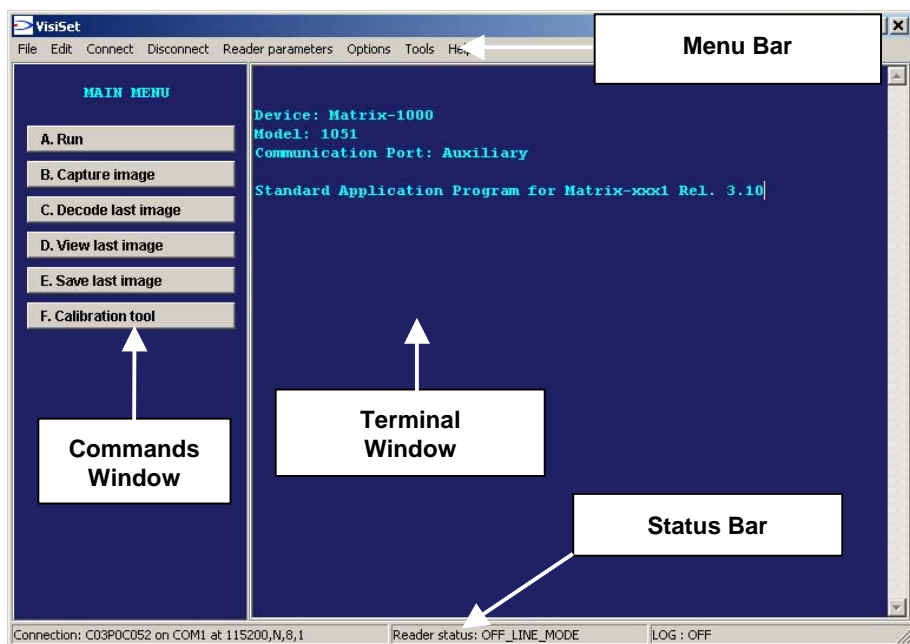

Figure 28 - Main Window
Upon connection, Matrix-1000™ exits Run Mode and displays the Main Menu on VisiSet™ with all the commands necessary to monitor your reader's performance. You can select these commands using the mouse or by pressing the key corresponding to the letter shown on the button. See Figure 28.
The **Options** item from the VisiSet™ menu (see Figure 28) presents a window allowing you to configure:
6. Close the Parameter Setup window and press **Disconnect** on the VisiSet™ menu bar (see Figure 28) or launch **Run** Mode from the VisiSet™ Main menu.